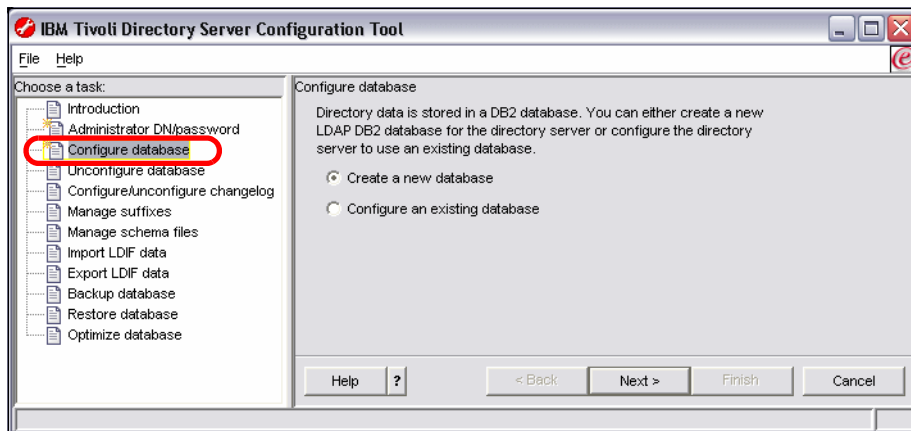

Figure A-45 Directory Server Configuration: Database creation
- ▶ In the left pane, select *Configure Database* and proceed through the dialog (Figure A-45).